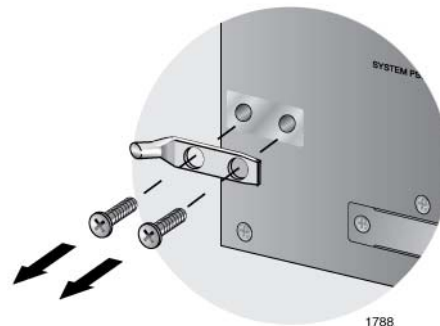

Figure 35. Removing the Grounding Lug
2. Remove the two screws that secure the grounding lug to the rear panel of the chassis, as shown in Figure 35.